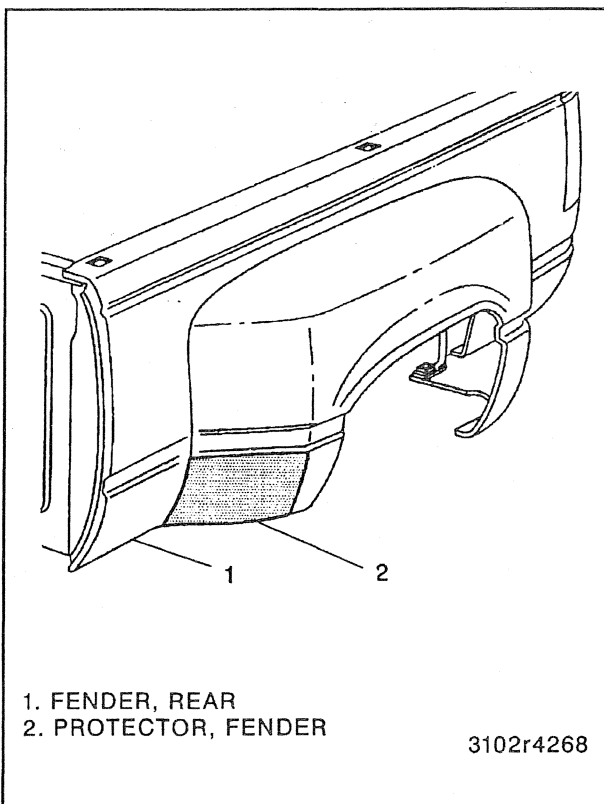

Figure 29—Fender Protectors
1. Be sure the fender is clean (figure 29).